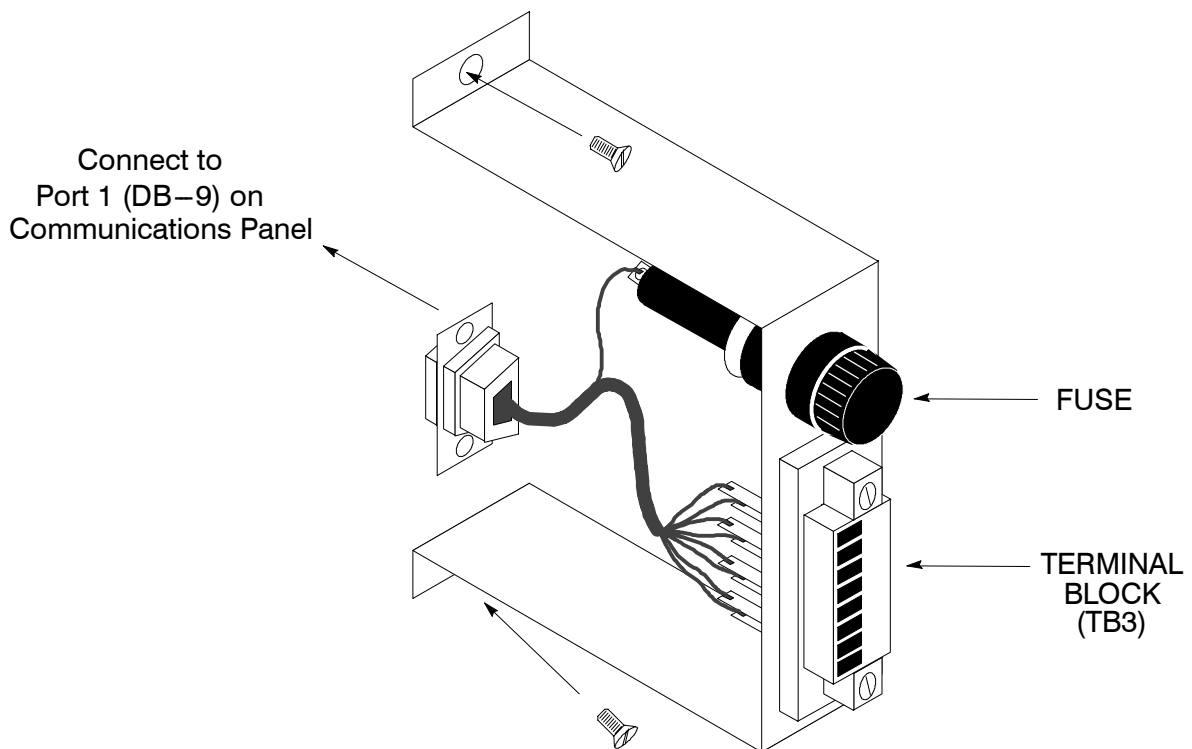
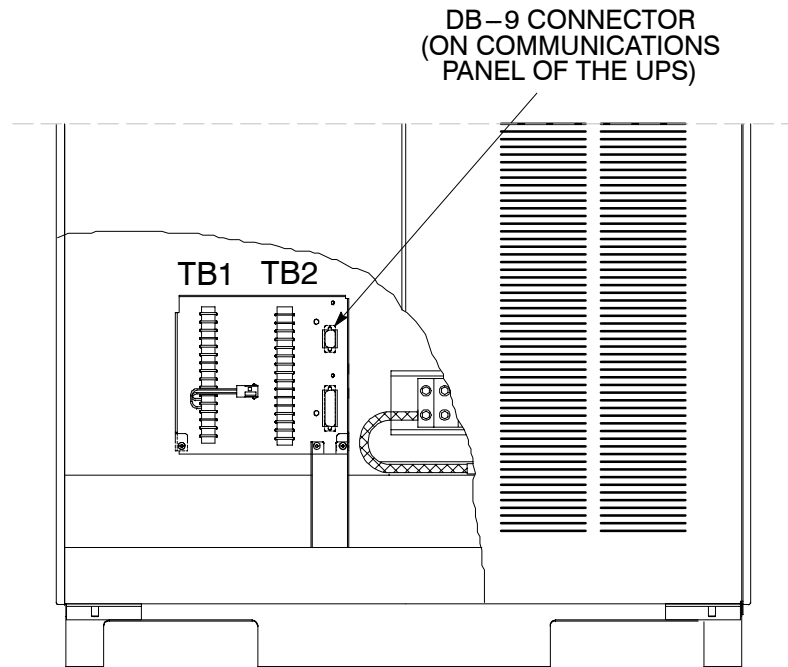

Figure 8. Terminal Block Bracket
Figure 9. Wiring an RMP to the UPS
3. In the spare parts kit, locate the RMP adapter cable assembly (see Figure 8). Mate the DB-9 connector on the back of the terminal block into the DB-9 connector on the Communications Panel of the UPS (see Figure 9). Use two screws from the spare parts kit to secure the terminal block bracket to the Communications Panel.